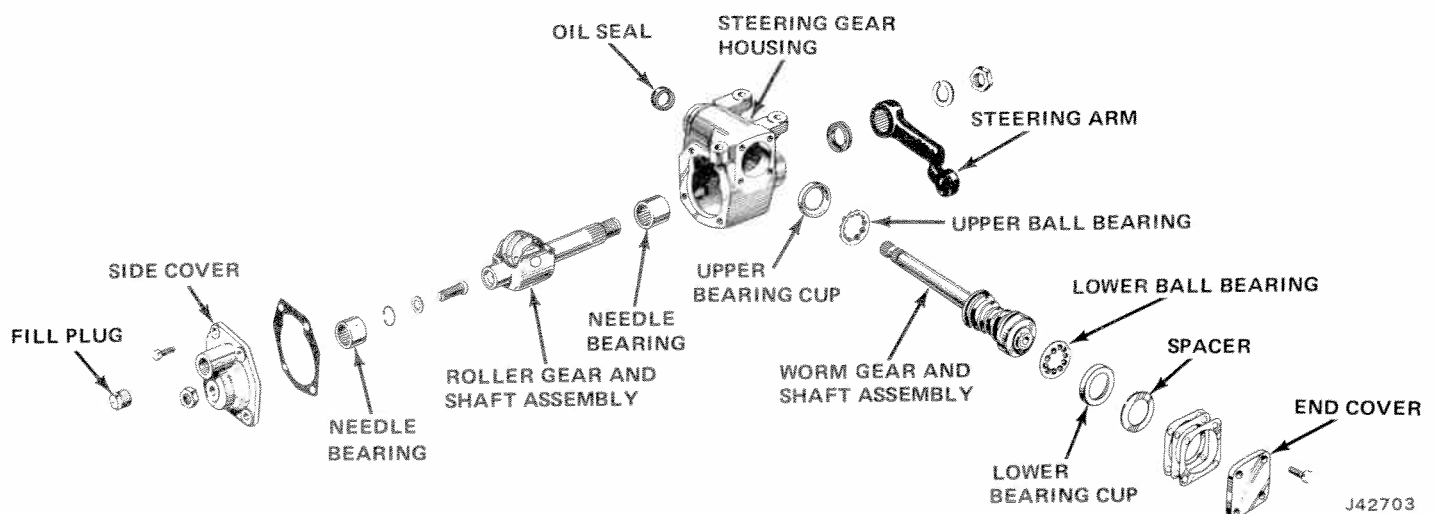

Fig. 11-43 Steering Gear Exploded View
If necessary, loosen four capscrews which fasten the end cover to the steering gear housing (fig. 11-43).
(1) If necessary, loosen locknut and turn adjustment screw at the side cover counterclockwise until worm gear shaft turns freely through its entire range of travel (fig. 11-43).
(2) Count number of turns necessary to rotate worm gear shaft through its entire range of travel.
(3) Turn shaft to center of its travel.
(4) Rotate shaft back and forth through its center of travel, and tighten adjustment screw until shaft shows slight bind at center of its travel.
(5) Adjust screw to obtain a rolling torque requirement of 7 to 12 inch-pounds to rotate shaft through center of travel.
(6) Hold adjustment screw in position and torque locknut 16 to 20 foot-pounds.
(7) Recheck rolling torque necessary to rotate worm gear shaft through center of its travel. If necessary, repeat above procedure until rolling torque is correct.